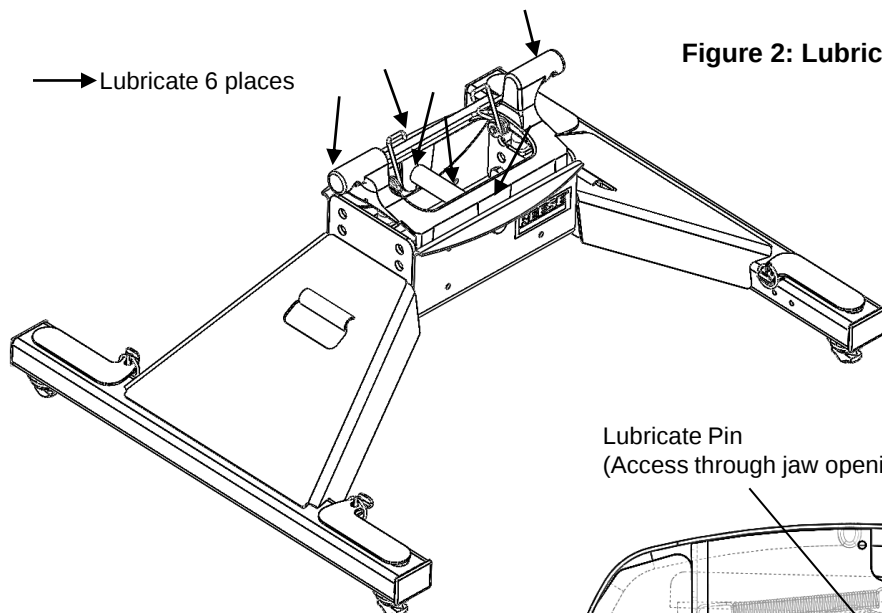

Figure 2: Lubrication Points
1. Lubricate skid plate surface of the hitch and pivot pin grease fitting (see Figure 1) with automotive type chassis grease or use a plastic lubrication plate to provide a lubricated surface. Use lithium grease to lubricate pivot point of moving parts within the hitch. (see Figure 2, 3, and 4)
1. Lubricate center section as shown in Figure 2 with lithium grease.